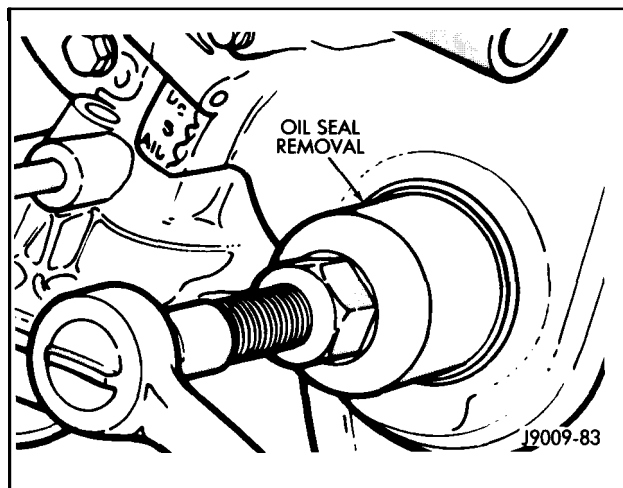

Figure 7-7
6. Remove the oil seal (Figure 7-7).